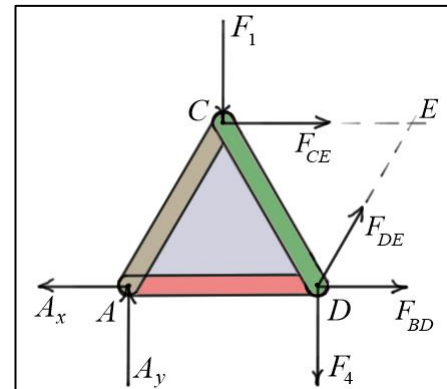

Fig. 5 Free Body Diagram of Section ACD
- An important part of this strategy is to **identify sections** of the truss that have only **three unknown forces** acting on them. To find such a section it may be necessary to first find the external support forces. In the section shown in Fig. 5, if the external support forces  $A_x$  and  $A_y$  are known, only three unknown member forces remain on that section.